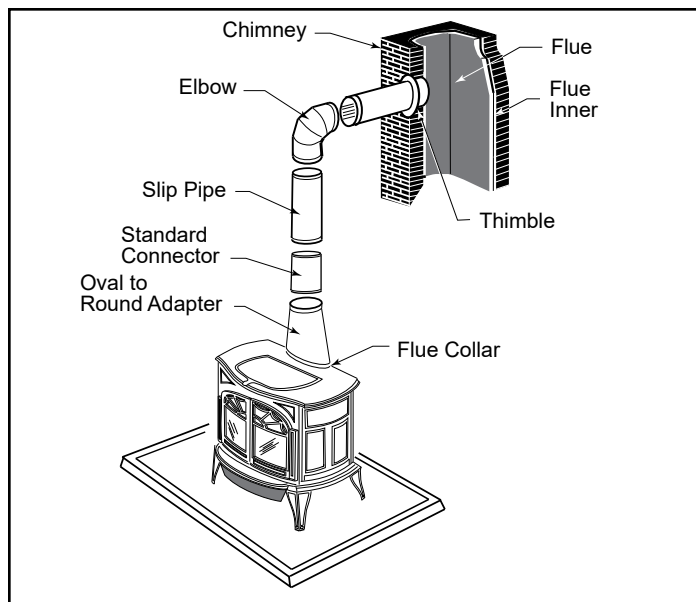

Figure 2.4 - An exploded view of the chimney connection in a freestanding masonry installation.
- Fasten each joint between sections of chimney connector, including telescoping joints, with at least three (3) sheet metal screws. The pre-drilled holes in the top of each section of chimney connector serve as guides when you drill 1/8" (3 mm) holes in the bottom of the next section.
- Fasten the chimney connector to the chimney. Instructions for various installations follow. Figure 2.4 illustrates the general layout of chimney connector parts.